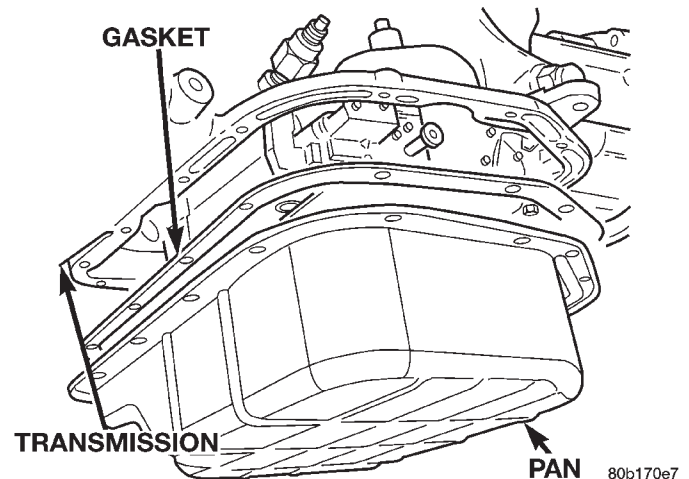
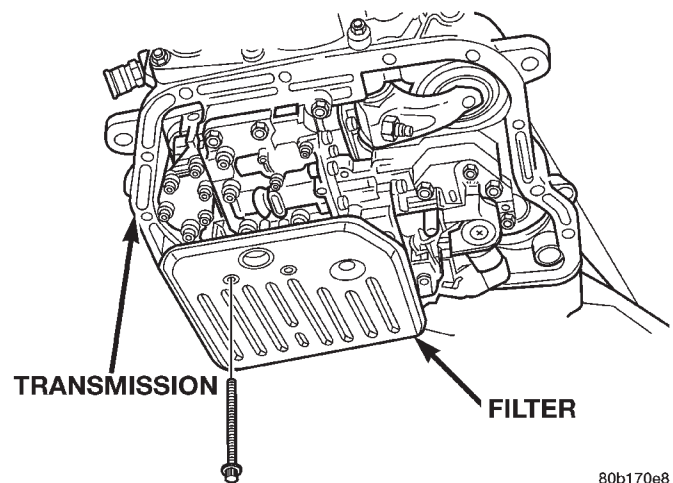

Fig. 11 Transmission Pan—Typical
Fig. 12 Transmission Filter—Typical
- (1) Hoist and support vehicle on safety stands.
- (2) Place a large diameter shallow drain pan beneath the transmission pan.
- (3) Remove bolts holding front and sides of pan to transmission (Fig. 11).
- (4) Loosen bolts holding rear of pan to transmission.
- (5) Slowly separate front of pan away from transmission allowing the fluid to drain into drain pan.
- (6) Hold up pan and remove remaining bolt holding pan to transmission.
- (7) While holding pan level, lower pan away from transmission.
- (8) Pour remaining fluid in pan into drain pan.
- (9) Remove screws holding filter to valve body (Fig. 12).
- (10) Separate filter from valve body and pour fluid in filter into drain pan.
- (11) Dispose of used trans fluid and filter properly.
(1) Place replacement filter in position on valve body.
(2) Install screws to hold filter to valve body (Fig. 12). Tighten screws to 4 N·m (35 in. lbs.) torque.
(3) Place new gasket in position on pan and install pan on transmission.
(4) Place pan in position on transmission.
(5) Install screws to hold pan to transmission (Fig. 11). Tighten bolts to 17 N·m (150 in. lbs.) torque.
(6) Lower vehicle and fill transmission with Mopar® ATF Plus 3, type 7176 fluid.